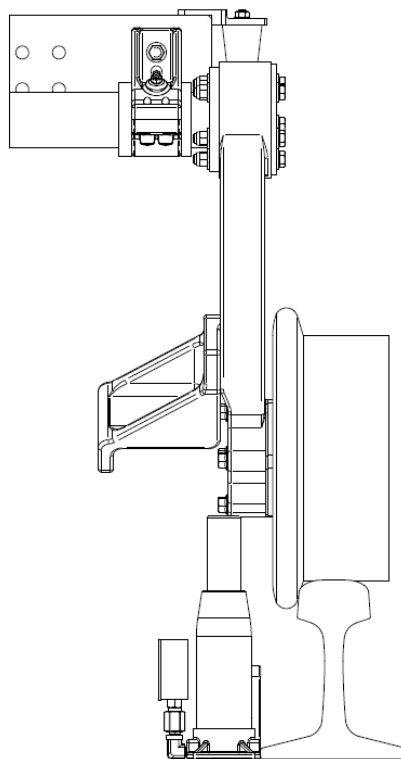

Figure 3-4: Wheel Weight Jack
3. See Figure 3-4. Place the wheel weighing jack (CO-105) under the guide wheel arm directly below the wheel spindle. Jack the guide wheel up until the guide wheel just clears the top of the rail. Note the gauge reading. The gauge reading indicates the pounds of load on the guide wheel.